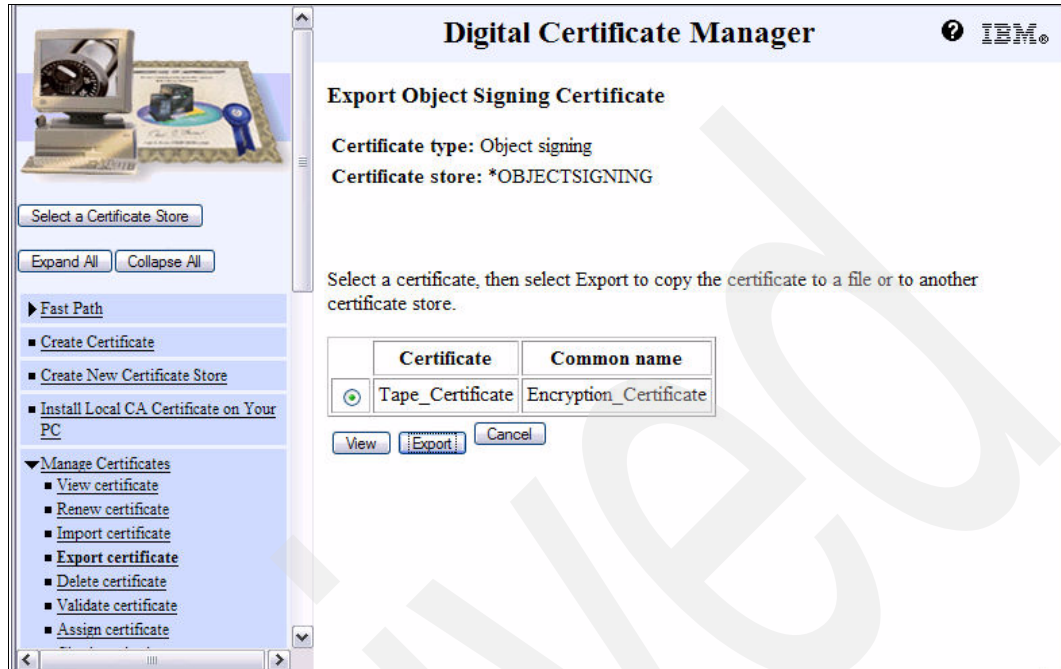

Figure 7-47 DCM Export Object Signing Certificate screen
15. After clicking **Continue**, select your certificate used for 3592 tape encryption for which the public key should be exported as shown in Figure 7-47.